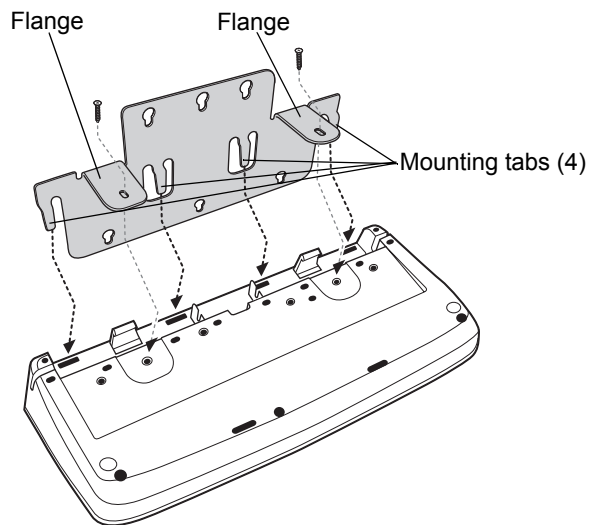

Figure B-9 Insert Bracket into CHS5000-8000CR Cradle
1. When mounting one eight-slot CS4070 battery charger (CHS5000-8000CR), slide the four bracket mounting tabs into the receptacles on the bottom of the charger as shown in Figure B-9. Ensure the screw holes in the bracket flanges align with the screw holes in the cradle.